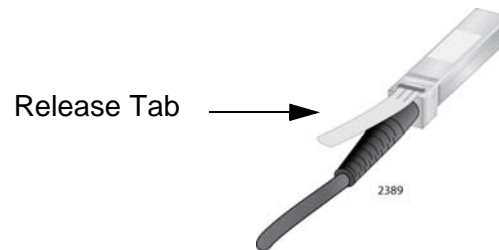

Figure 103. Release Tab on the AT-SBx31XS6 Line Card
2. Orient the connector on the AT-SP10TW cable so that the release tab is on top, as shown in Figure 103.